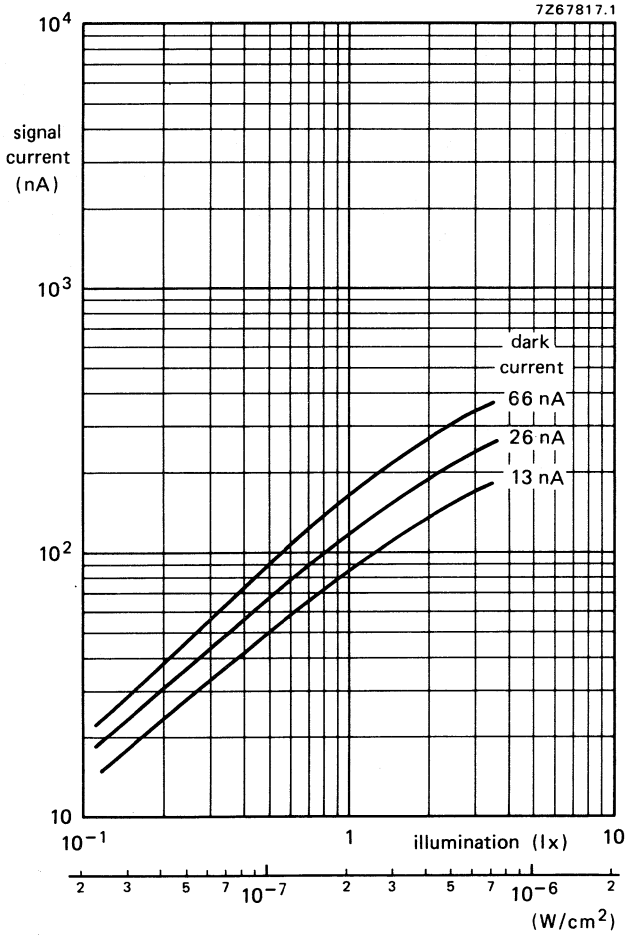

Fig. 5 Typical light transfer characteristics.
12. For typical transfer characteristics with P20 and P11 light input see Figs 5 and 6.